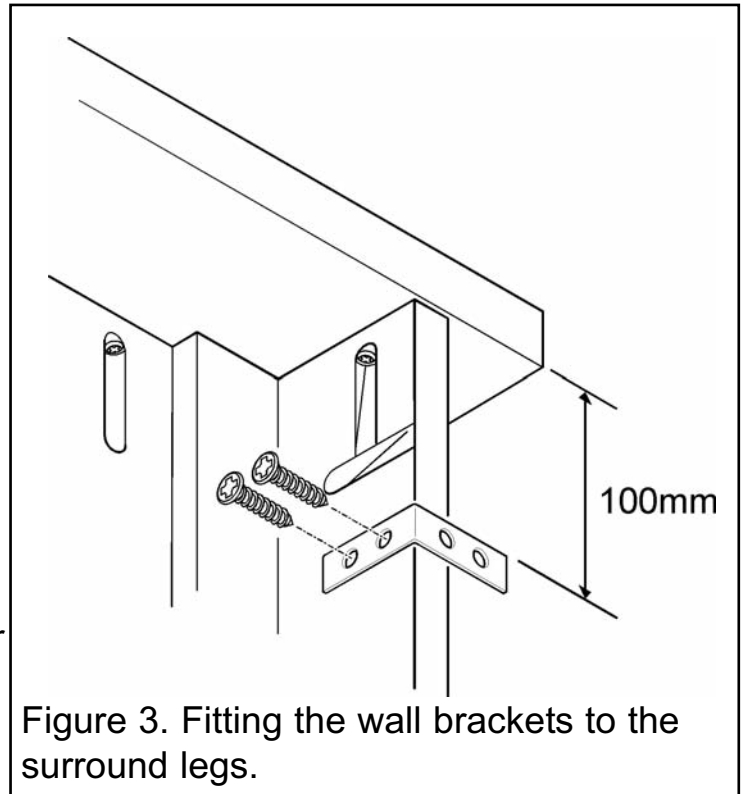

Figure 3. Fitting the wall brackets to the surround legs.
Place wall fixing brackets (C) 100mm from the top outside edge of the legs as shown in figure 3. Secure in place using four screws (D).